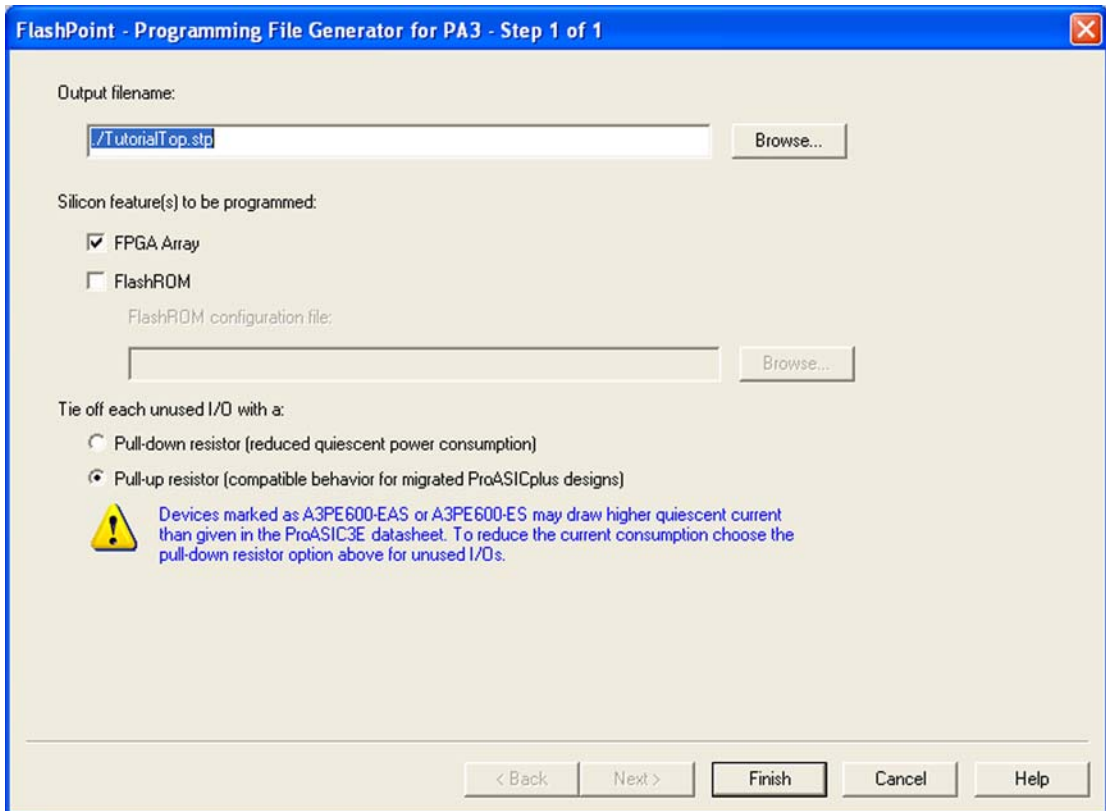

Figure 5-47. Flash Point Dialog Box
1. Open the *TutorialTop.adb* file in Designer and click the **Programming File** button in the Design Flow window, which opens the FlashPoint window (Figure 5-47).